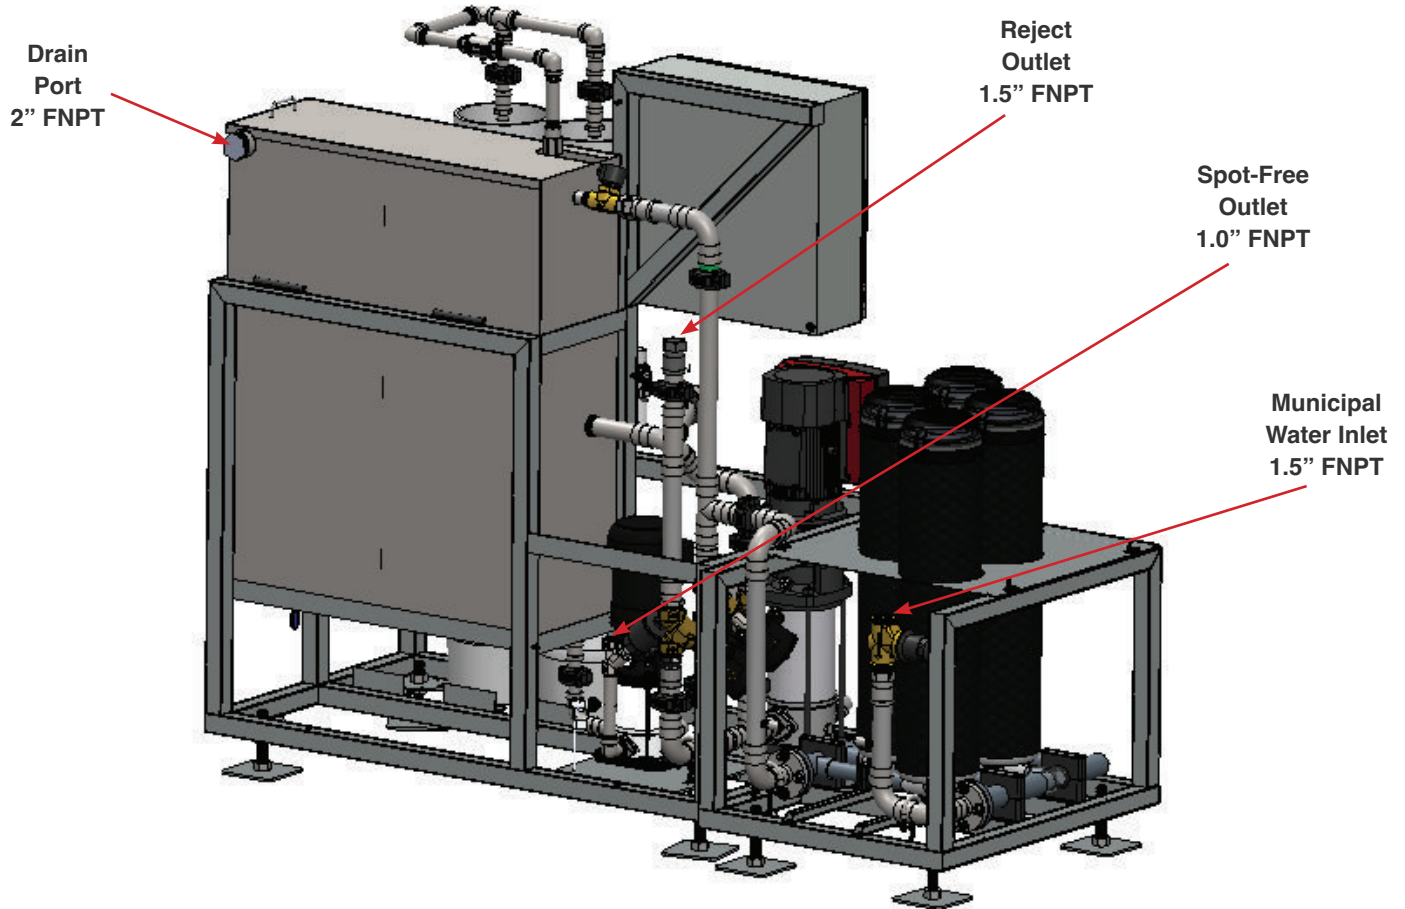

Fig. 3.2.3 - 1 - Water line connections
1. Connect a 1.5" MNPT hose to the municipal water inlet (Fig. 3.2.3 - 1). Verify municipal water can supply 40GPM @ 40-60 psi (see Table 2.2 - 1).
2. Connect a 1.5" MNPT hose to the Reject Outlet (Fig. 3.2.3 - 1). Reject water should be plumbed to either a reject tank, high-pressure pump stand, or drain.
3. Connect a 1" MNPT hose to the Spot-Free Outlet (Fig. 3.2.3 - 1). The Spot-Free Outlet can be plumbed directly to a single applicator in the wash or to a solenoid bank that supplies spot-free water to multiple applicators.
4. (Optional) Connect a 2" MNPT hose to the Drain Port (Fig. 3.2.3 - 1).